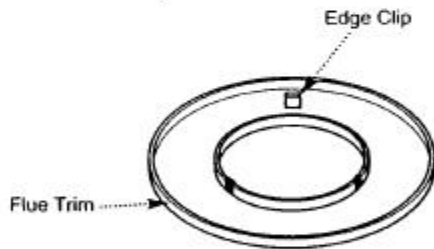

Fig. 29a
- b) Take the three edge clips from the kit and fit to equi-spaced onto the inner flange of the trim (Fig. 29a).